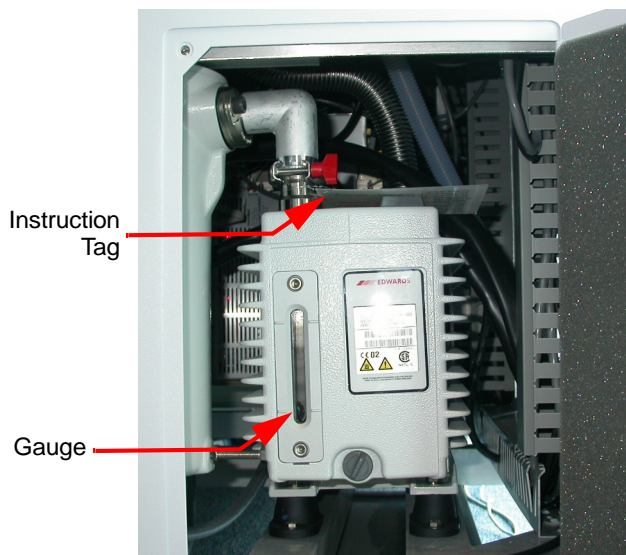

Figure 10-2 Vacuum Pump Motor and Oil Gauge
1. Open the door in the lower right corner of the right side of the cabinet to access the pump motor (Figure 10-2).